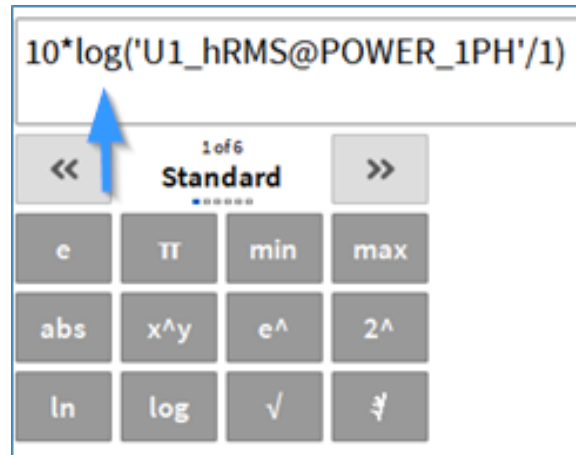

Fig. 7.75: Standard operators in combination with array channels
- Standard operators (see Fig. 7.75)